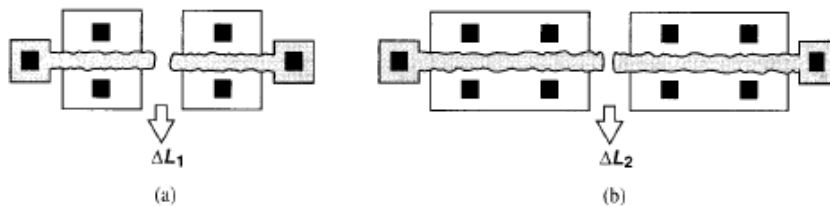

Figure 13.18 Reduction of length mismatch as a result of increasing the width.
- Fig. 13.18;  $\Delta L_2 < \Delta L_1$  because the device is viewed as many small transistors.